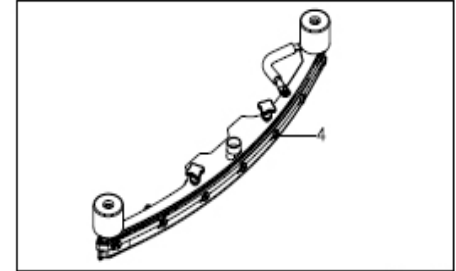

Figure 18 - Blade Replacement
2. Loosen knurled nuts (Figure 18/4).